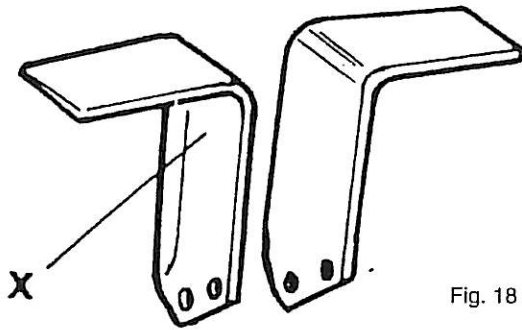
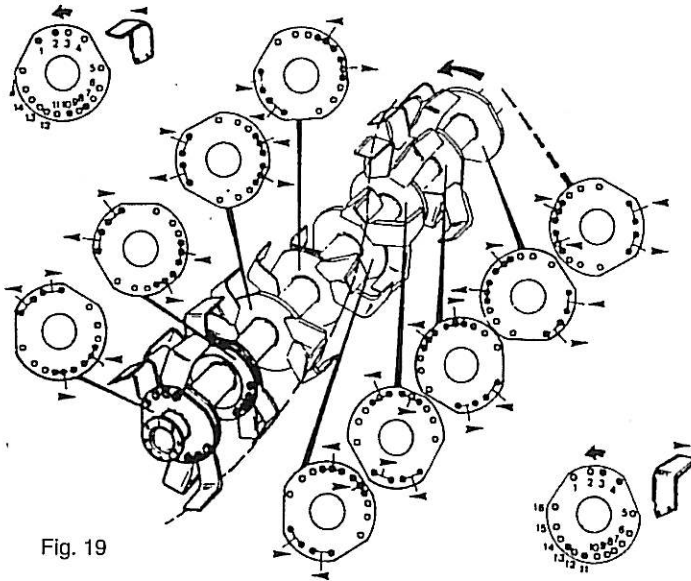
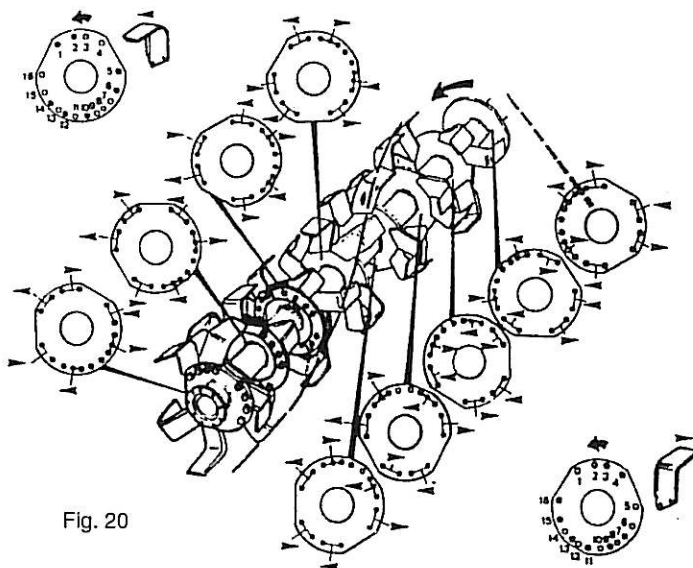

Fig. 18
Fig. 19
Fig. 20
Firstly identify left and right hand blades. Blades X on Fig. 18 is a left hand blade. Use only ORIGINAL-HOWARD-BLADES and HOWARD-BLADE-BOLTS. Always attach blades and clamping rings to the left of the rotor flanges. To blade a rotor to the 2-Blade system refer to Fig.19 and to Fig.20 for the 3-Bladed system proceeding as follows:
To simplify changing from one formation to another, each blade bolt hole has a number and the blades are fitted in the following fashion: (see Fig. 19 and 20).
- Fit 6 right hand blades (Y) to the left hand flange (A). See fig. 19 and 20.
- Fit 6 left hand blades (X) to the right hand flange (B). See fig. 19.